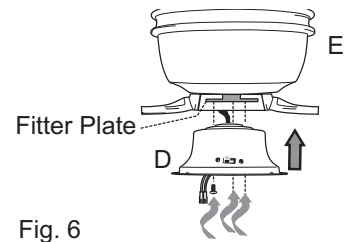

Fig. 6
6. Align slotted holes in switch housing (D) over loosened screws in fitter plate and twist switch housing (D) to lock. Re-install screw that was removed in Step 5 on the previous page, and then tighten all three screws securely. [Fig. 6]